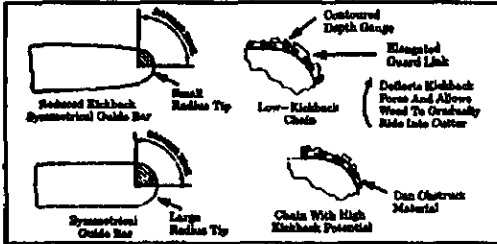

Figure 5
- Reduced-Kickback Guide Bar, designed with a small radius tip which reduces the size of the kickback danger zone on bar tip. Figure 5. A reduced-kickback guide bar is one which has been demonstrated to significantly reduce the number and seriousness of kickbacks when tested in accordance with safety requirements for electric chain saws as set by CSA Z62.1 & Z62.3.
- Low-Kickback Chain, designed with a contoured depth gauge and guard link which deflect kickback force and allow wood to gradually ride into the cutter. Figure 5. Low-Kickback Chain is chain which has met kickback performance requirements of CSA Z62.1 & Z62.3, & ANSI B175.1.